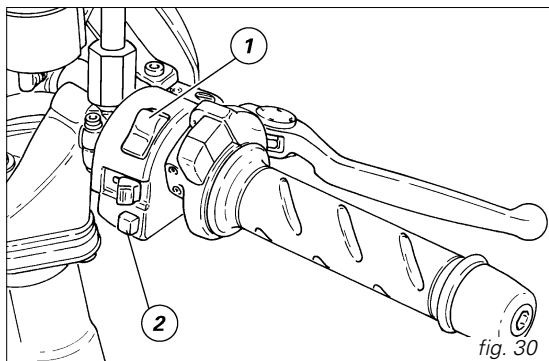

fig. 30
3) Check that the stop switch (1, fig. 30) is positioned to **○ (RUN)**, then press the starter button (2). Let the engine start without using the throttle control.